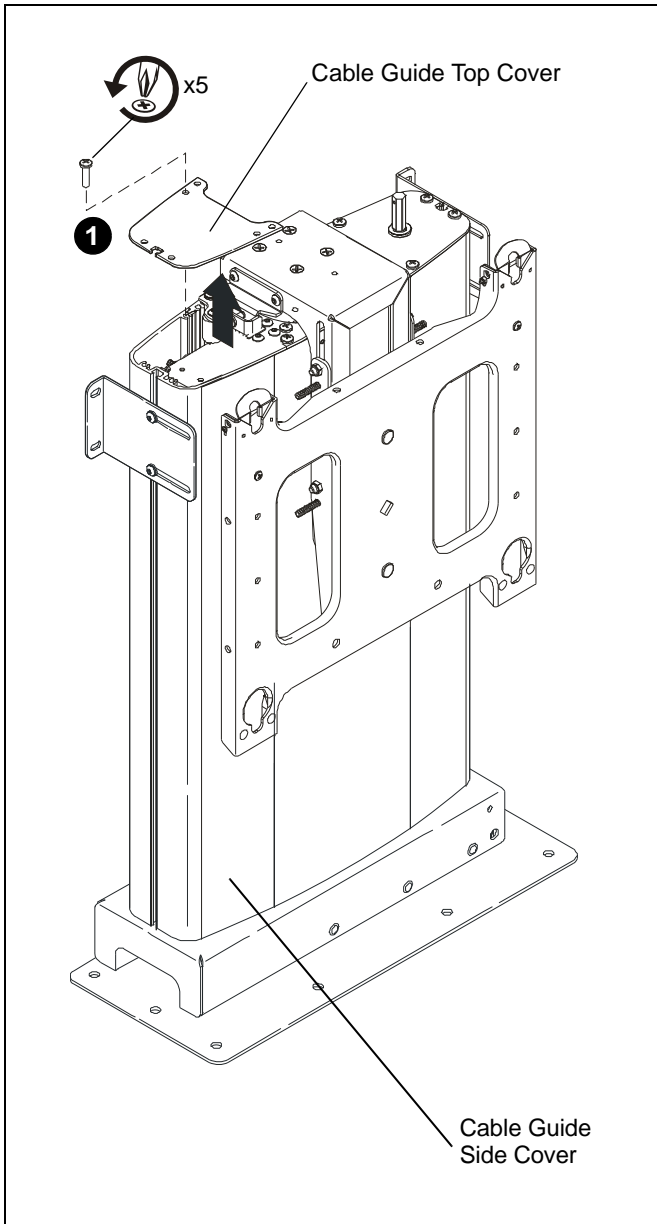

Figure 11
2. Set screws aside for reuse. (See figure 11)